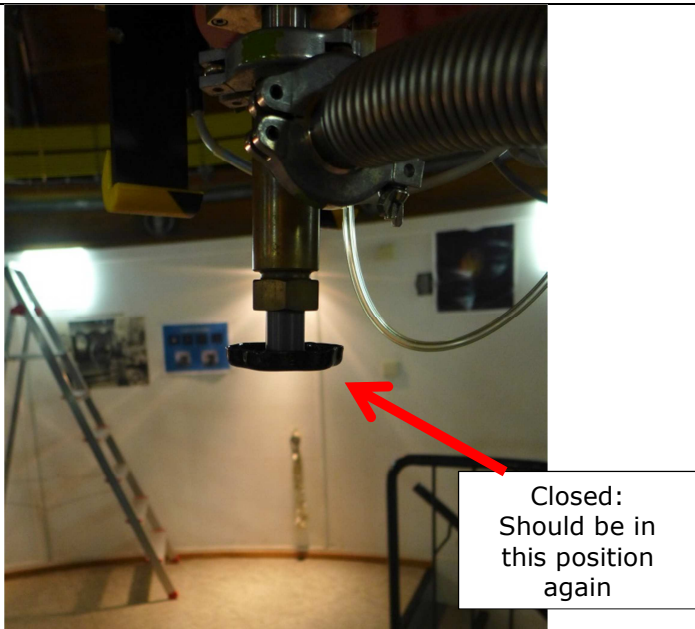

Figure 7-1: **Lock valve** at the CCD's dewar: valve closed.
- u) Before you shut off anything first close the **lock valve** at the CCD's dewar by pushing in the handle as far as possible (Figure 7-1).